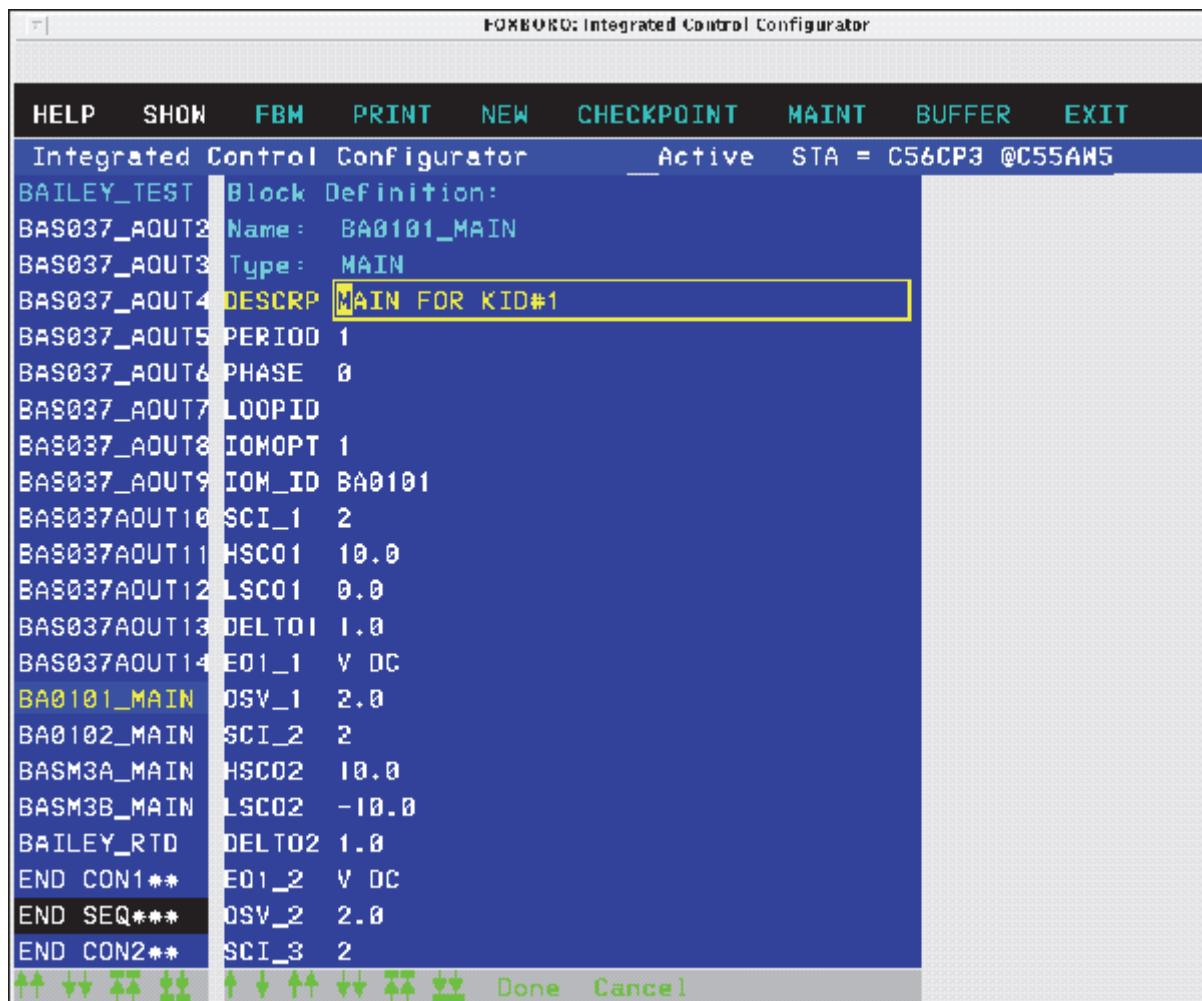

Figure D-5. Configuring the First MAIN Control Block for BASI01/BASM01 (SMDH)
Figure D-5 shows an example of a MAIN (Multiple Analog Input) control block configured for the first eight channels of the first virtual FBM01. (Although the MAIN block is used here, any AIN blocks or standard Foxboro Evo connections can be used.) As indicated in Figure D-5, signal conditioning (SCI) is set as follows for the configured ranges.
- ◆ For Channels 1, 2, and 3 (Figure D-5), SCI is set to 2 (for 0 to 10 V dc, -10 to +10 V dc).
- ◆ For the remaining five channels (Figure D-5), SCI is set to 3 (for 4 to 20 mA or 1 to 5 V dc). (These settings are not shown in the figure.)